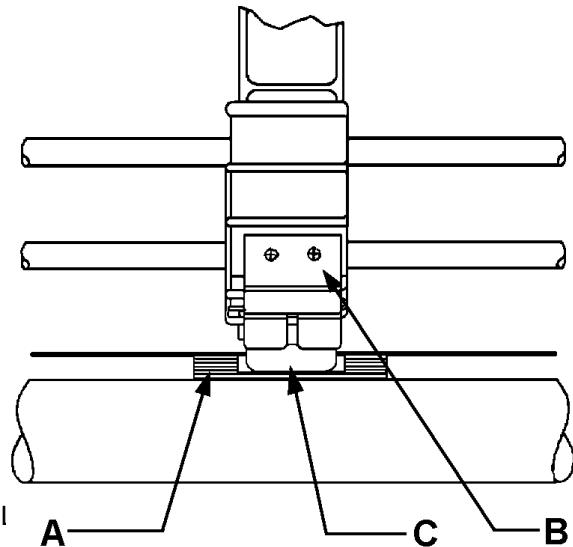

Figure 6
2. THREAD LABELS FOLLOWING THE DIAGRAM (FIGURE 6, OR 6A) IN THE INSTRUCTION BOOK.